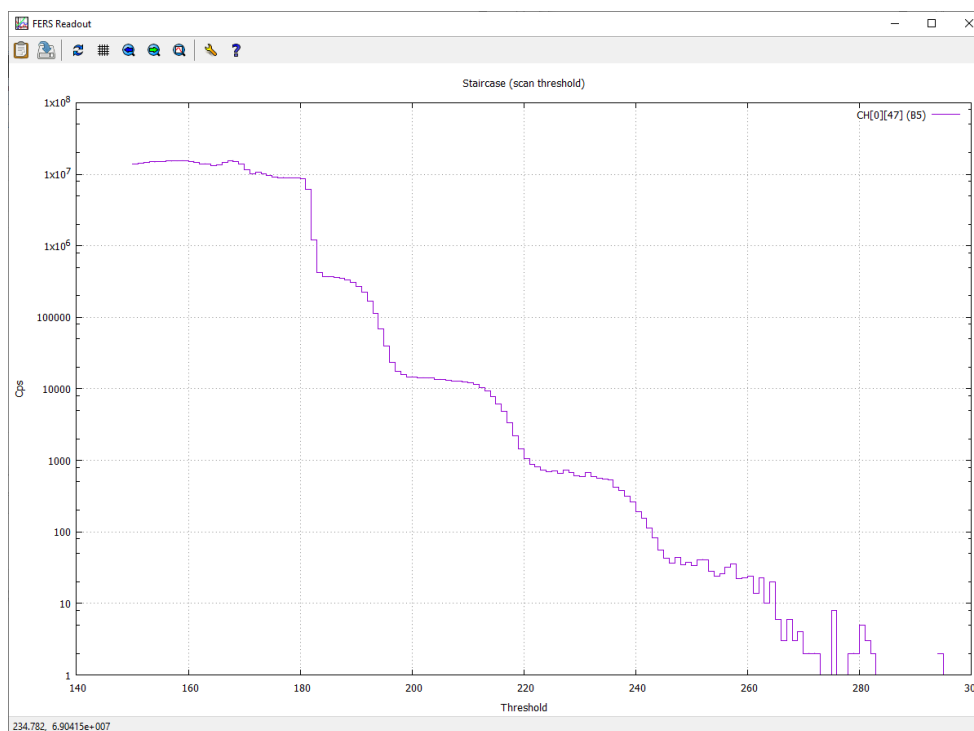

Fig. 10.42: Staircase obtained from the TD self-triggers of one channel. Each stair corresponds to a different number of photoelectrons triggered.
7. The SiPM Staircase can be visualized by selecting the "Staircase" option for the "Plot Type" parameter in the Janus GUI window. An example of SiPM Staircase is presented in Fig. 10.42.
A proper value for the "TD Coarse Threshold" and "TD Fine Threshold" can now be set, for instance, in order to reduce as much as possible the DCR during physics runs. If this is the case, Fig. 10.42 shows that a possible value for the "TD Coarse Threshold" could be 300.